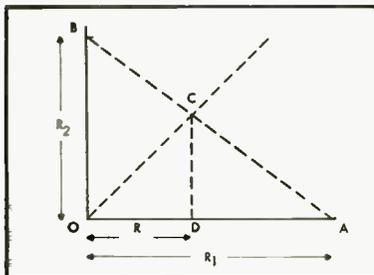

Fig. 1. Graphical solution for two resistances in parallel.
Fig. 1. The development of the distortionless push-pull electrostatic loudspeaker unit: (A) the basic arrangement with its drive unit; (B) this produces a linear driving force on the diaphragm, provided the diaphragm does not move; (C) when the diaphragm moves, the driving force becomes non-linear; (D) preventing the charge flow, mentioned in the text, by means of the resistor R, eliminates, or reduces, this non-linearity of driving force.
The obvious way to improve this situation is to provide a push-pull arrangement, as shown basically at Fig. 1. This means that the second harmonic in the driving force will be balanced out. However this does not get rid of our distortion completely: under this condition the harmonic component of the driving force is only eliminated *provided the diaphragm spacing remains unchanged during the cycle*, which means that it must not move, and if the diaphragm does not move, how is it going to radiate any sound?
the diagram of Fig. 1.¹